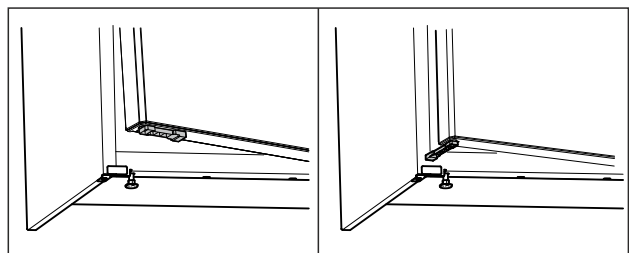

Fig. 56 \*
- ▶ Turn door opening limiter by 90°. (see Fig. 56) \*